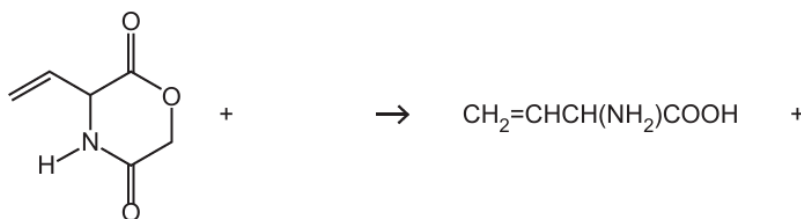

Fig. 6.2
- (i) Complete Fig. 6.2 to show the equation for this reaction.